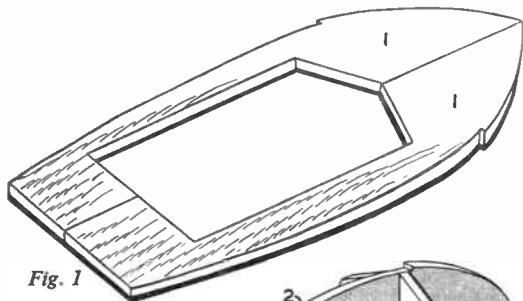

Fig. 1
lay the two deck pieces (1) together on a flat surface and cement them as shown in Fig. 1, being fairly liberal with the adhesive.